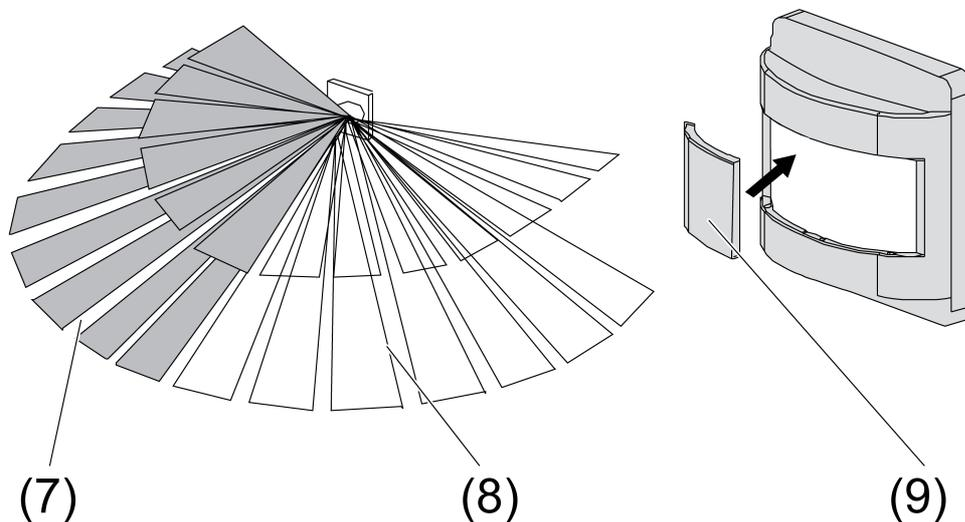

Figure 10
The supplied cover plate (9) can be used to mask unwanted detection areas (Figure 10). The cover plate can cover up the left (7) or right half (8) of the detection fields, 90° in each case.